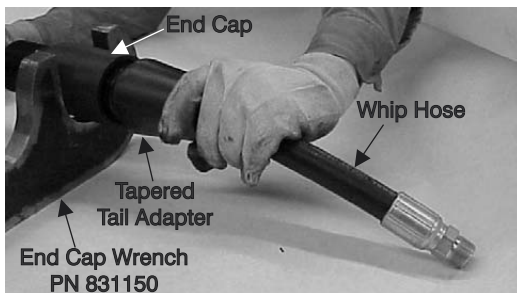

Figure 11-20. Slide Tail Adapter to End Cap
3. With the threaded end toward the End Cap (8), slide the Tapered Tail Adapter (13) over the Whip Hose (10) to the internal threads of the End Cap as shown in Figure 11-20.